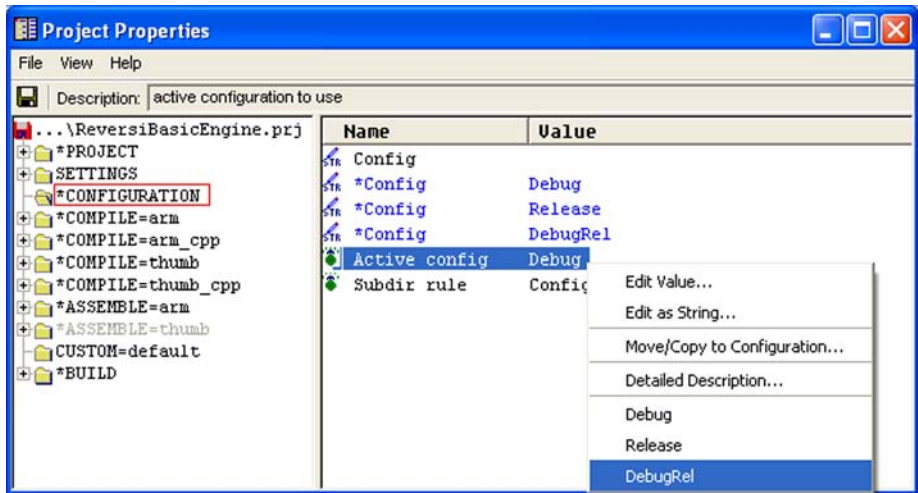

Figure 5-57. RealView Project Properties Configuration Options
11. Right-click the **Active config** entry in the **CONFIGURATION** pane and select **DebugRel** from the context menu, as shown in Figure 5-57.